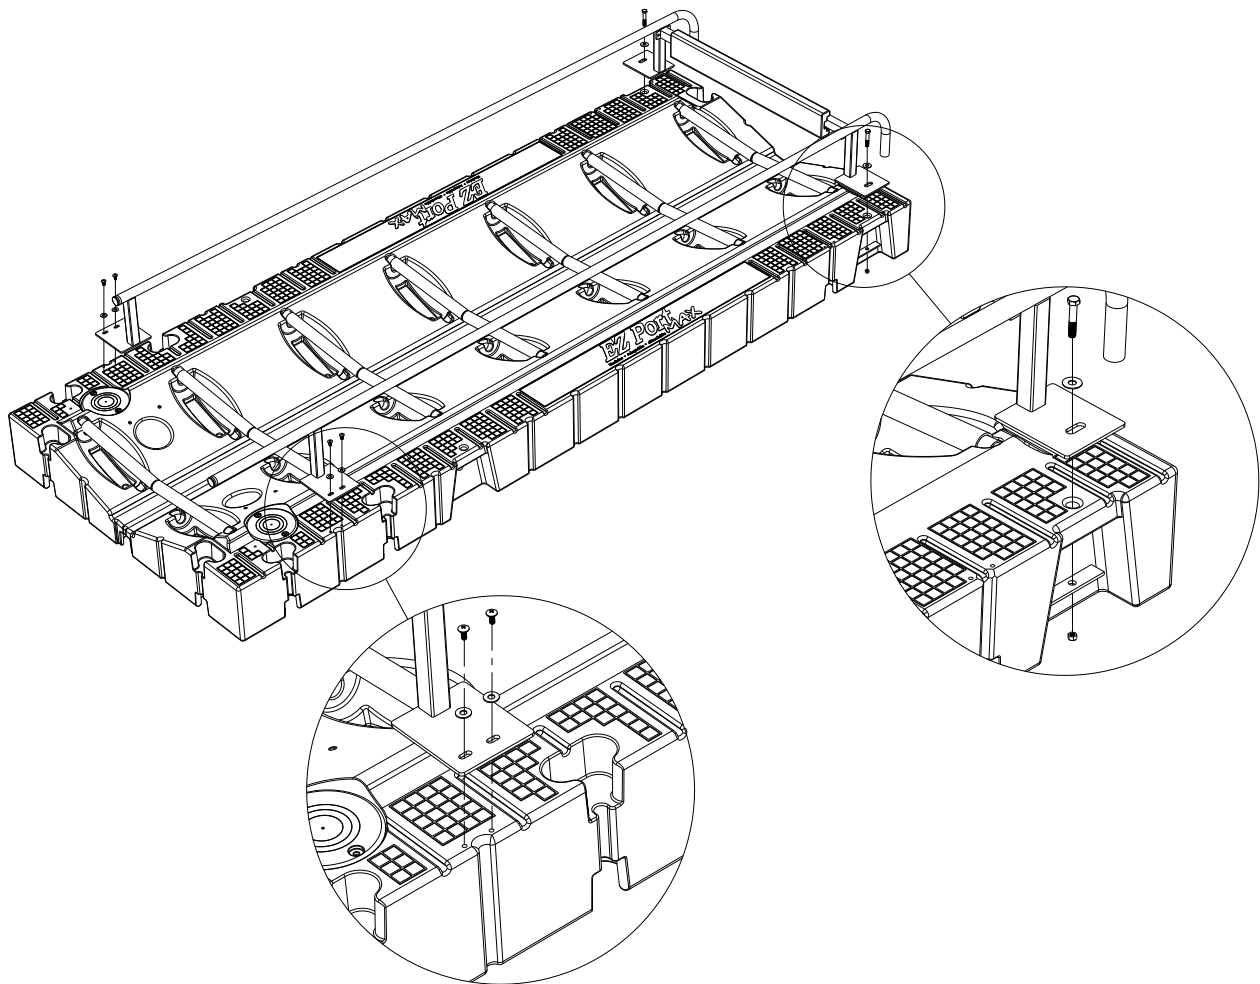

Figure 8
- Place a 1/2" washer on a 1/2-13 x 2 3/4" hex head bolt and insert it through the large slotted hole on the rail assembly and larger hole in the port. (Figure 8)
The barrier handrailing is available for use with the EZ Launch access rails. There is a left (500906L) and a right (500906R) rail. Right rail is shown in Figure 8.